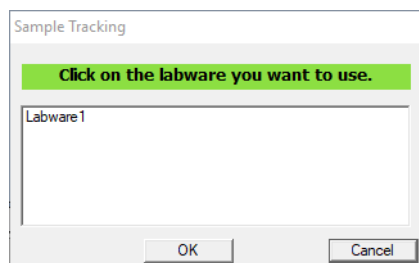
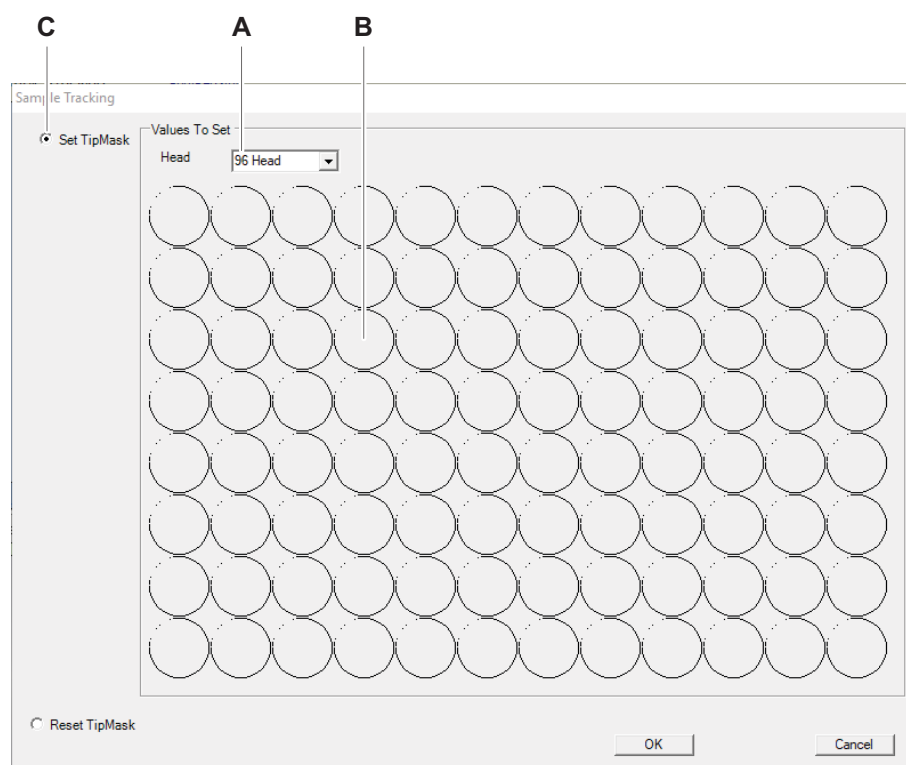

Fig. 5-20 Sample Tracking labware selection screen
Fig. 5-24 SetMCATipMask
- 2 Select the MCA head type (A) Fig. 5-24, Fig. 5-20.
- 3 Mark the required tip positions (B) Fig. 5-24, Fig. 5-20.